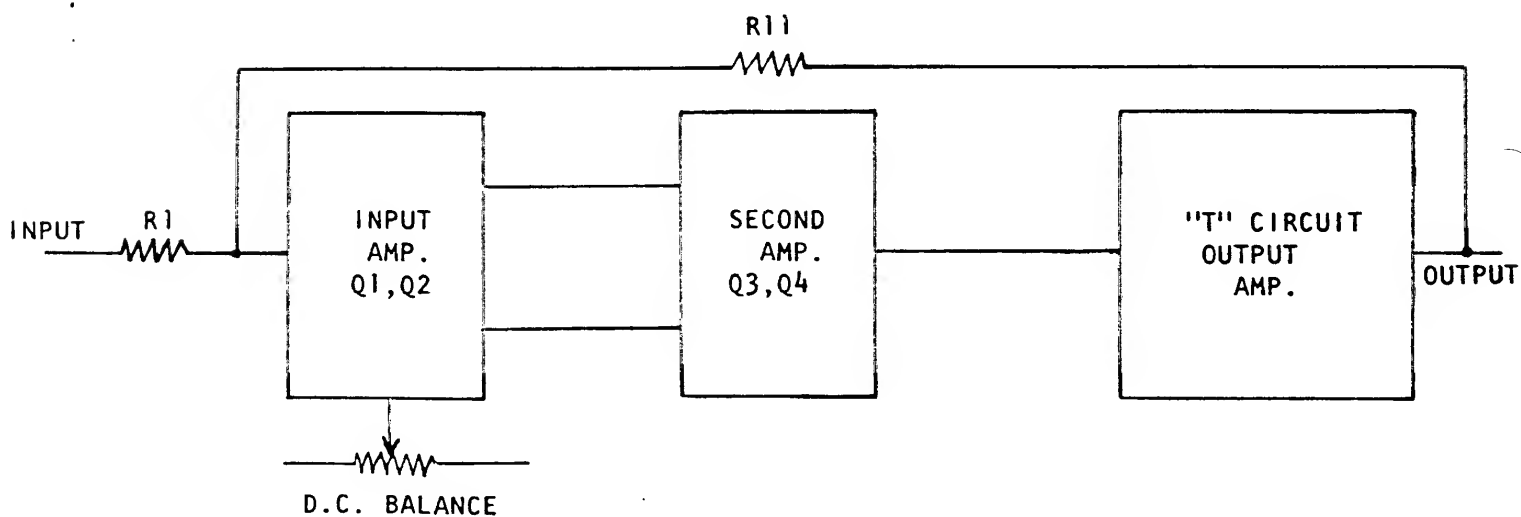

Figure 3-2 POWER AMPLIFIER BLOCK DIAGRAM
3.2.2 DRIVING STAGE - Figure 3-2 shows the complete amplifier (one stereo channel) and the low-level driving stage. The latter is a two-stage differential DC amplifier having a voltage gain of 1200. The frequency response of the driving stage is far greater than 100K Hz, so that the single factor limiting the frequency response of the complete amplifier is still Q5 and Q6. The closed loop gain of the complete amplifier is essentially R_{11}/R_1 , or approximately 25. The feedback factor, therefore, is about 50.